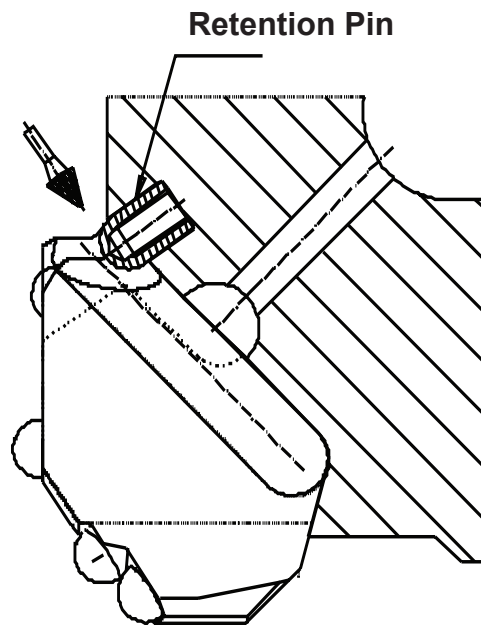

Figure 2. Cut off dome of Retention Pin
1. Find the steel Pins located toward the center of the Bit on the inclined bottom face of the milled pocket in Guide Device. These Pins keep the Wings from falling out when they are in the retracted position. Using a hand held grinder with a grinding stone, or cut-off wheel, grind the dome down flat. **(Figure 2)**. (In many Bits, the Pin will already have a center hole in it, which is exposed by grinding off the dome of the Pin. If this is the case proceed to step #3.)